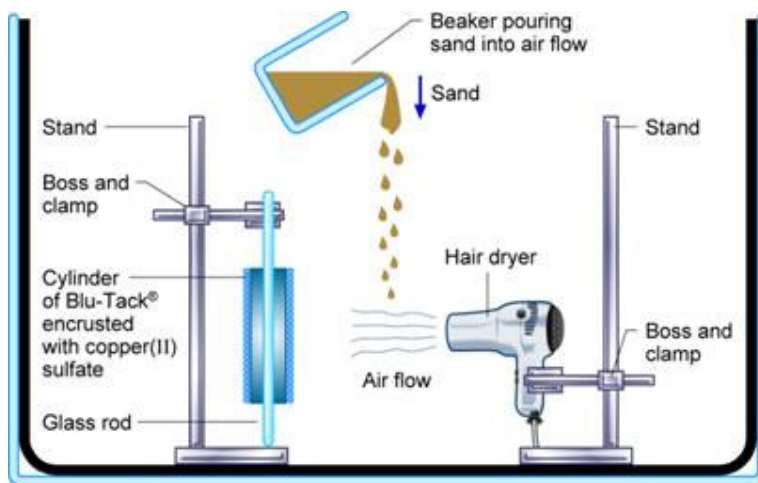

Figure 3 The setup for Activity 5
Work in a fume cupboard which should be switched off. Line the floor and walls of the fume cupboard with a bin liner. Make a cylinder of Blu-Tack® around a glass rod and coat it with copper(II) sulfate crystals, just enough to get a thin layer. This can be done by rolling the cylinder in a tray of the crystals. Place the cylinder on the bin liner as shown in Figure 3. Set up the hair drier (using the stand, clamp and boss) so that it is at the same height as the coated cylinder of Blu-Tack® and pointing towards it.